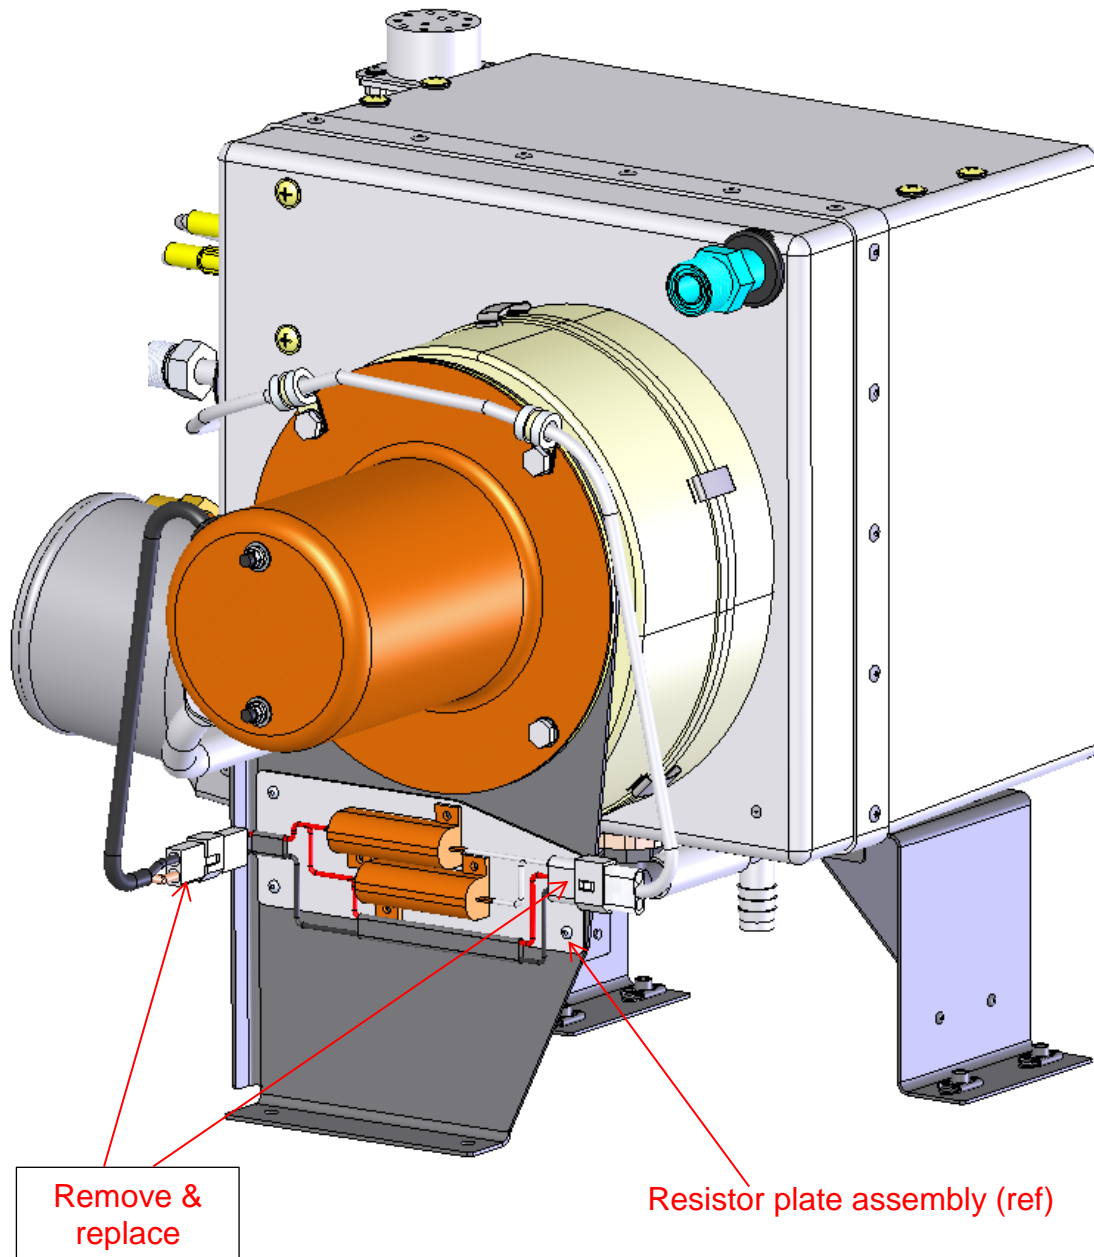
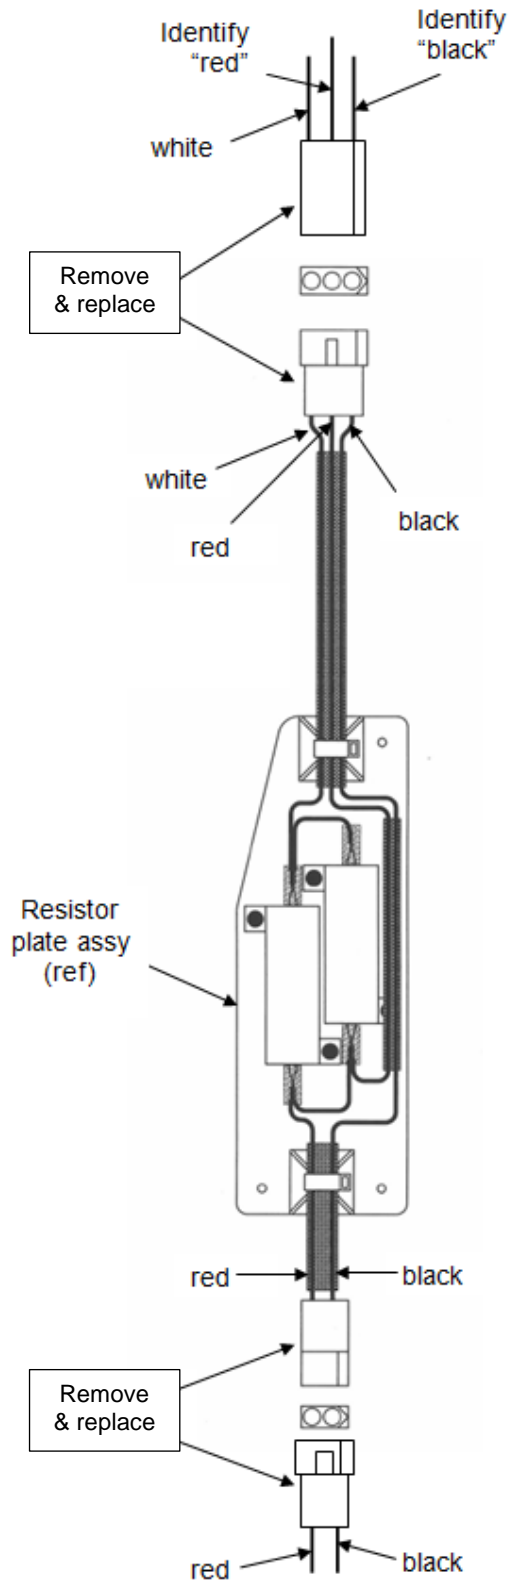

Figure 1. AS350-6202 Aft Evaporator
Figure 2. Resistor Plate Assy
2. Locate the 3 pin connector near the resistors on the evaporator (see Figure 1) and mark the white wires "Red" and "Black" as appropriate per figure 2. It may be necessary to remove a portion of the heat shrink covering on the harness.
3. Cut the wires on the back side of the 4 connectors (2 connector sets) shown in Figure 1. Remove minimal wire length. Remove and discard the connectors w/pins & sockets.